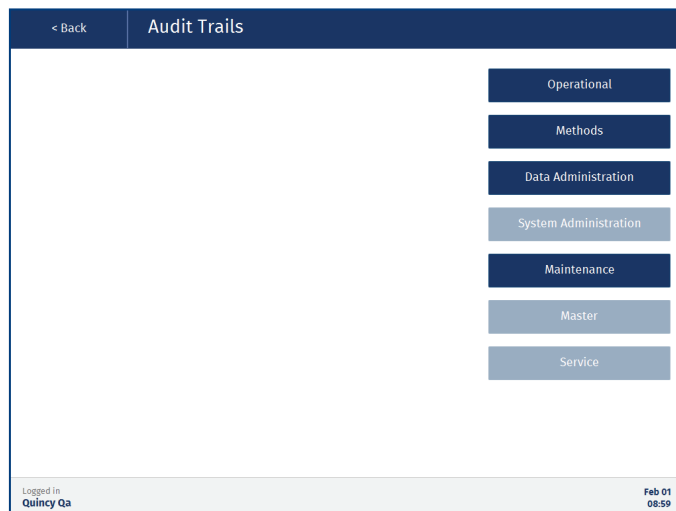
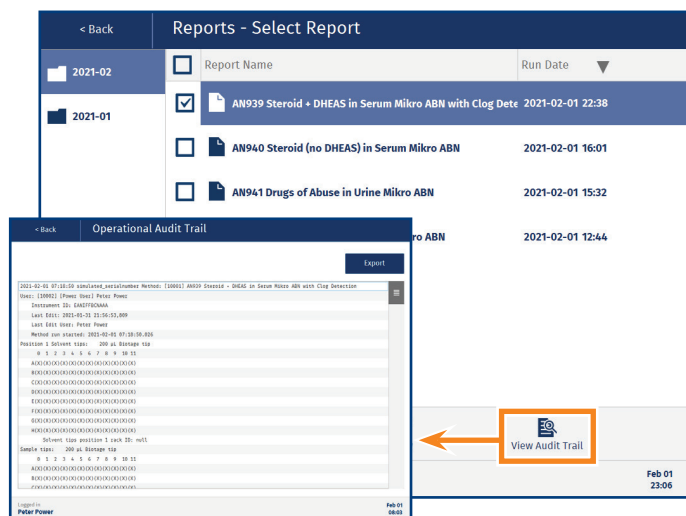

Figure 43. The Audit Trails view when logged in as a QA/QC user. For user access rights, see Table 1 on page 6.
Figure 44. There is one operational audit trail for each run.
The audit trails can be accessed from the **Audit Trails** view (see Figure 43). For user access rights, see Table 1 on page 6.
All audit trails can be accessed from the **Audit Trails** view (see Figure 43). The audit trails, except for the master, can also be accessed by pressing  in the lower right corner in the corresponding view (see Figure 44).
2. Open the audit trail and press **Export** (see Figure 44).